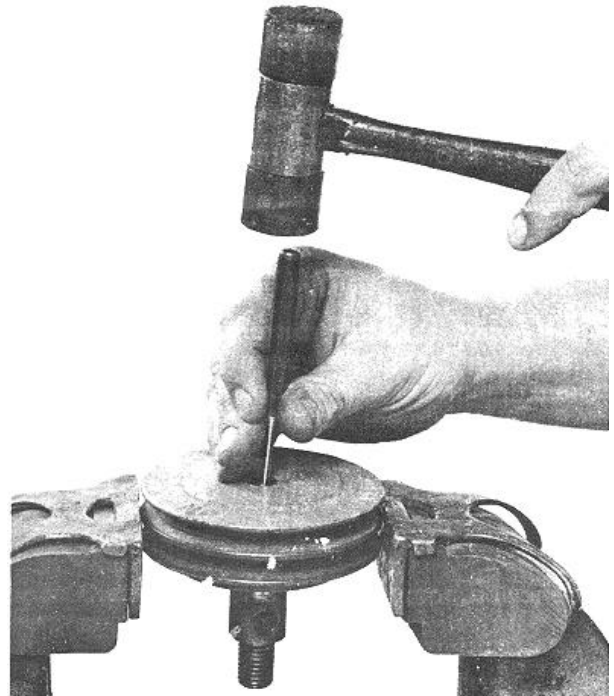

Fig. 8-40 (N10881). Remove The Bearing Assembly From The Pulley.
11. Remove the retaining ring (22).
12. Remove and discard the O-ring (24).
- a. Remove the plug (29) from the pulley.
- c. Put the flat end of a punch through the plug hole. Lightly hit the punch with a plastic hammer to push the bearing assembly from the pulley, Fig. 8-40.